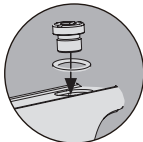

Figure 3.1 Assembly of coin hole bolt
1. Assemble the coin hole bolt as shown in Figure 3.1.